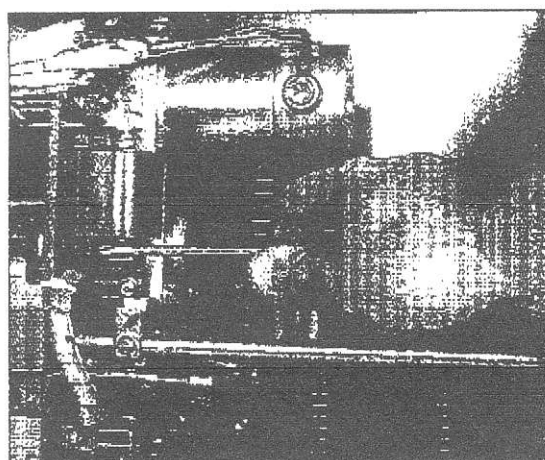

Fig. 62 Remove Screws
- 3) Remove the screws holding the coil in place (Fig. 62).